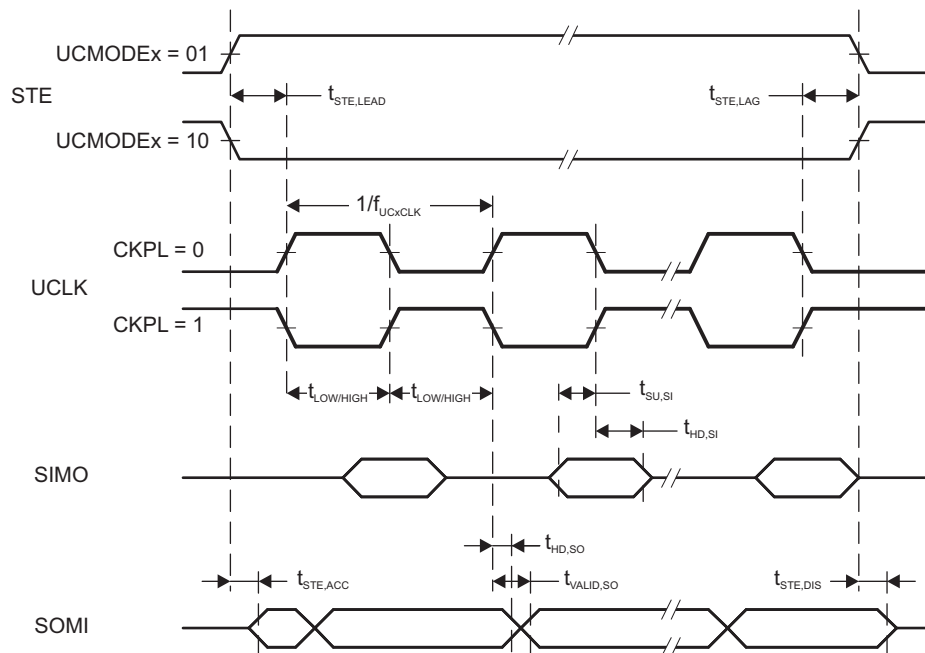
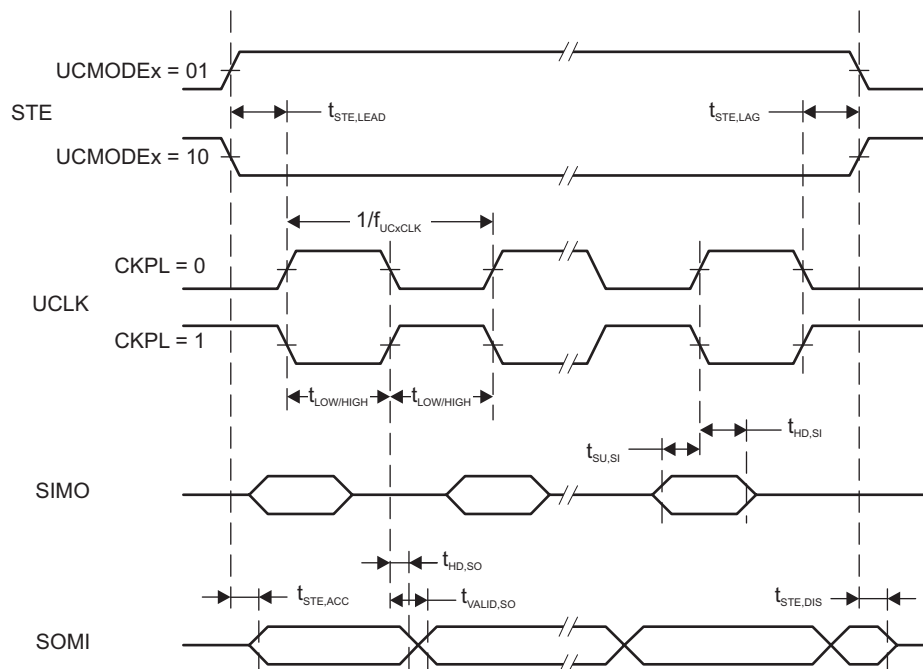

Figure 5-71. SPI Slave Mode, CKPH = 0
Figure 5-72. SPI Slave Mode, CKPH = 1
- (2) Specifies the time to drive the next valid data to the SOMI output after the output changing UCLK clock edge. See the timing diagrams in Figure 5-71 and Figure 5-72.
- (3) Specifies how long data on the SOMI output is valid after the output changing UCLK clock edge. See the timing diagrams in Figure 5-71 and Figure 5-72.